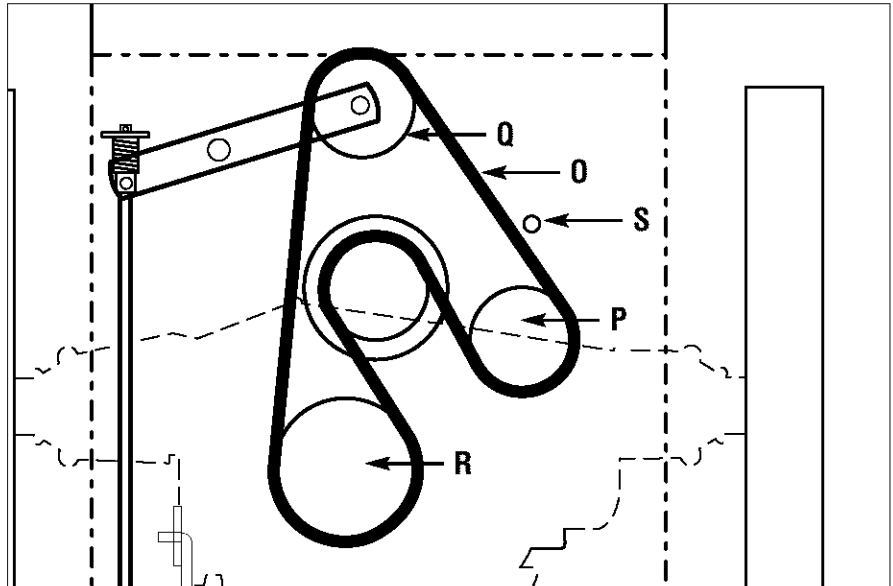

Figure 5-11: Wheel drive belt replacement.
4. Locate wheel drive belt (O, Figure 5-11) and remove it from top sheave of engine sheave, back-sided idlers (P and Q) and transmission sheave (R).
5. Install new belt as shown in Figure 5-11. Belt must be installed "inside out"—"V" side of belt lies against engine sheave only. Flat side of belt lies against transmission sheave (R) and back-sided idlers (P and Q).
6. Make sure belt is inside belt guide (S, Figure 5-11).